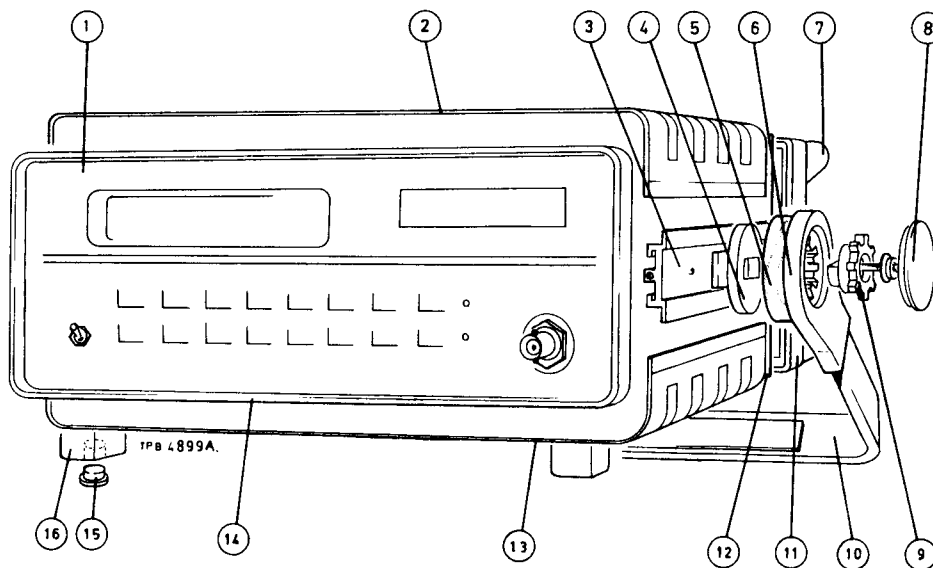

Fig. 1 Miscellaneous mechanical parts
19. Item numbers refer to Fig. 1. Order without prefix.